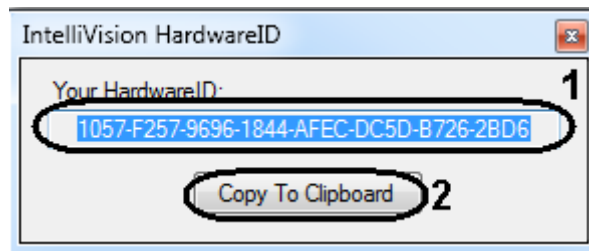

Fig. 6.3—1 HardwareID.exe utility
2. Run the *HardwareID.exe* utility (Fig. 6.3—1).
3. In the **Your HardwareID** field the code is displayed (Fig. 6.3—1, 1).
4. Click the **Copy To Clipboard** button to copy the code to the clipboard (Fig. 6.3—1, 2).